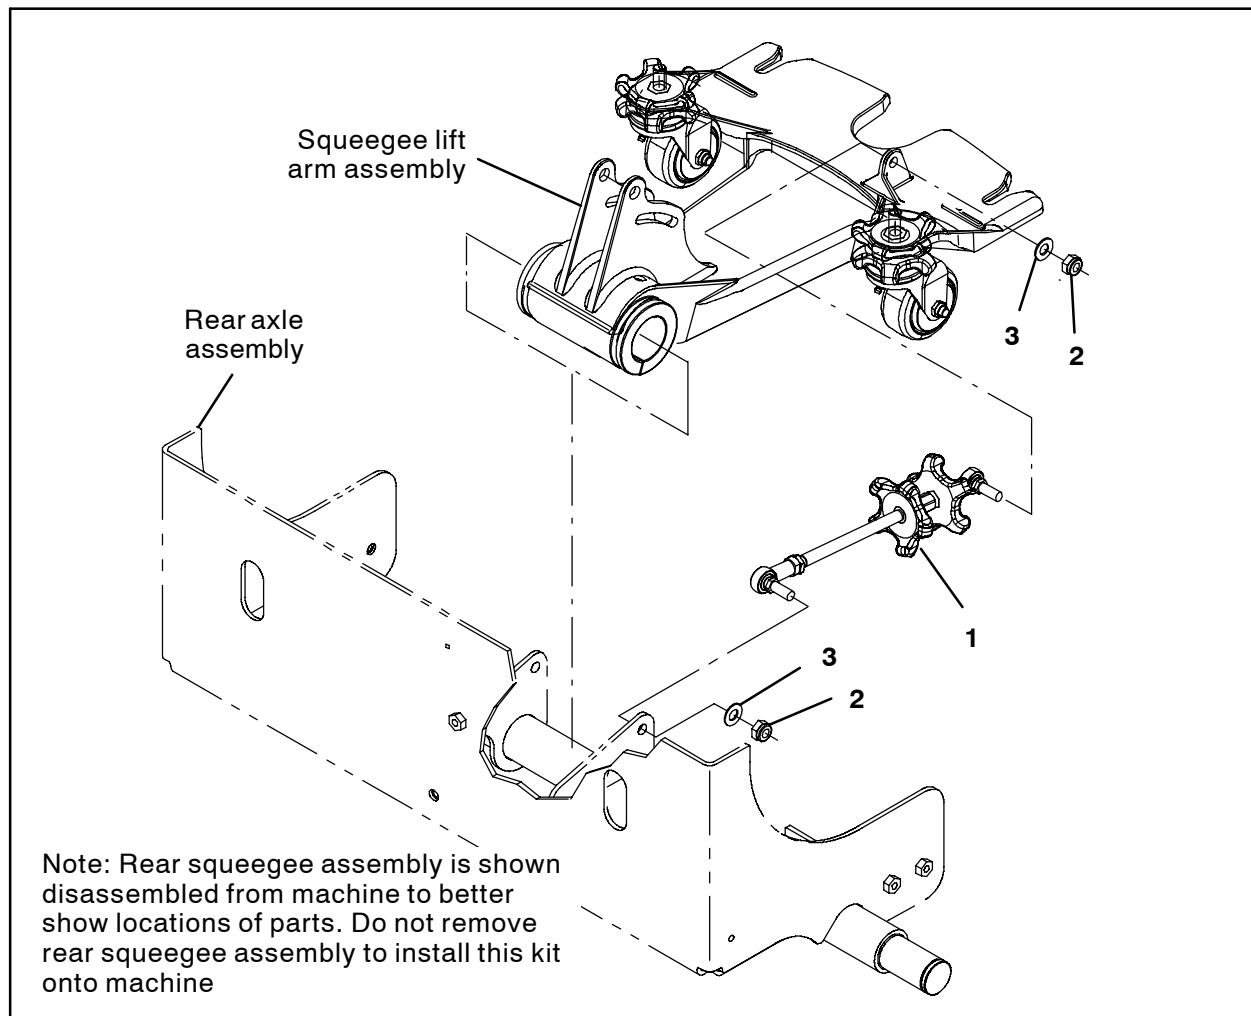

FIG. 2
4. Use a M10 hex nut (2) and a flat washer (3) to install the turnbuckle (1) onto the rear axle assembly. Refer to Fig. 2.
5. Use a M10 hex nut (2) and a flat washer (3) to install the turnbuckle (1) onto the squeegee lift arm assembly. Refer to Fig. 2.